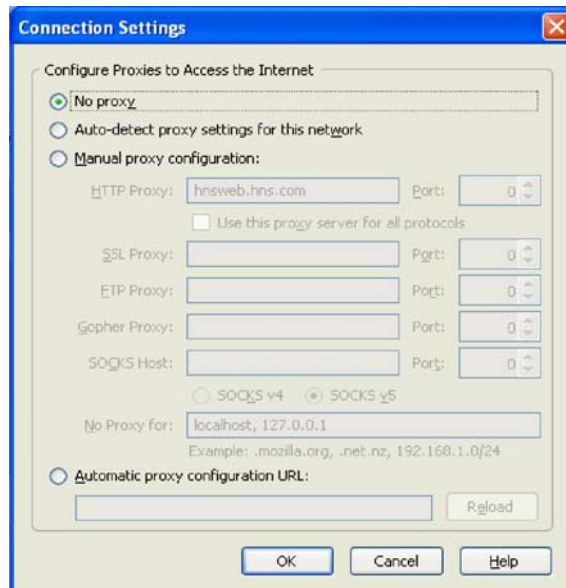

Figure 77: Connection Settings - Firefox
5. Click the **Settings** button; the Connection Settings window appears as shown in Figure 77.